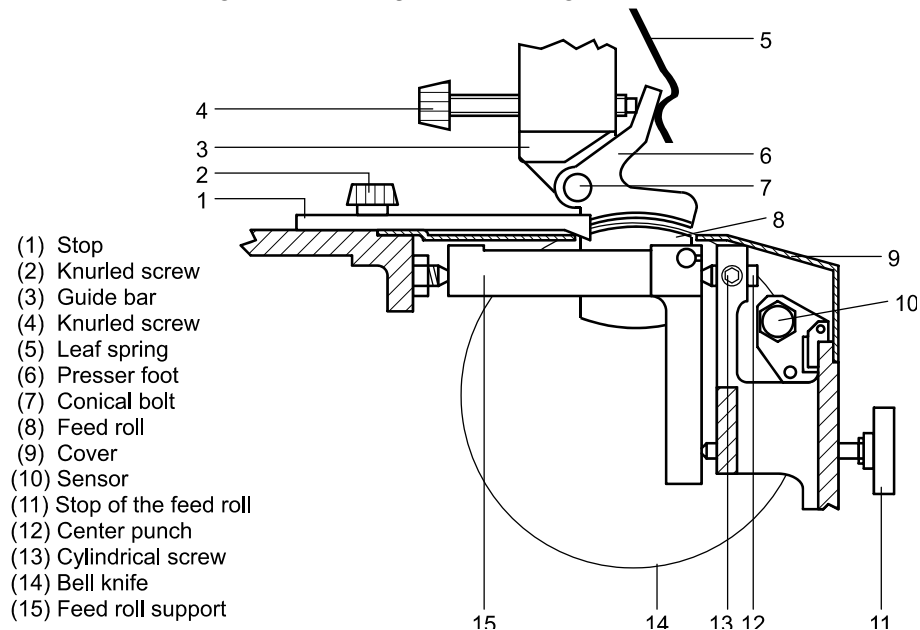

Figure 6: Knife guidance
For information on the position of the knurled screw and the leaf spring, please refer to Figure 6: *Knife guidance* (page 30).
The skiving width is adjusted by opening the knurled screw (2) and by shifting the stop (1) in the slotted hole. Please refer to Figure 6: *Knife guidance* (page 30).